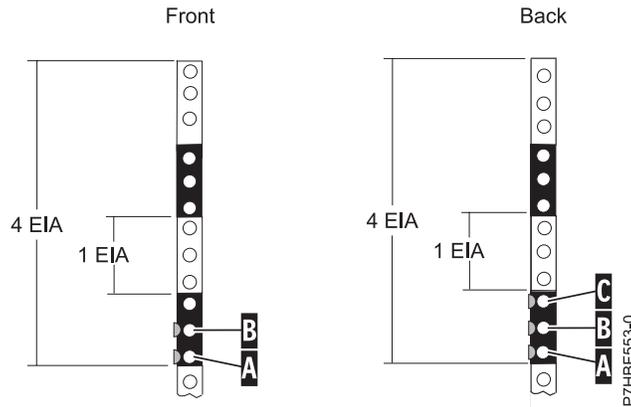

Figure 2. Marking holes on the front and rear of the rack frame
3. Beginning with the hole identified by the mark **(A)**, count up one hole and place a second mark **(B)**. Mark the rack so the mark can also be seen from the rear of the rack, as shown in Figure 2.
6. Beginning with the hole identified by the mark **(A)**, count up one hole and place a second mark **(B)**, as shown in Figure 2.
7. Beginning with the hole identified by the mark **(B)**, count up one hole and place a third mark **(C)**, as shown in Figure 2.